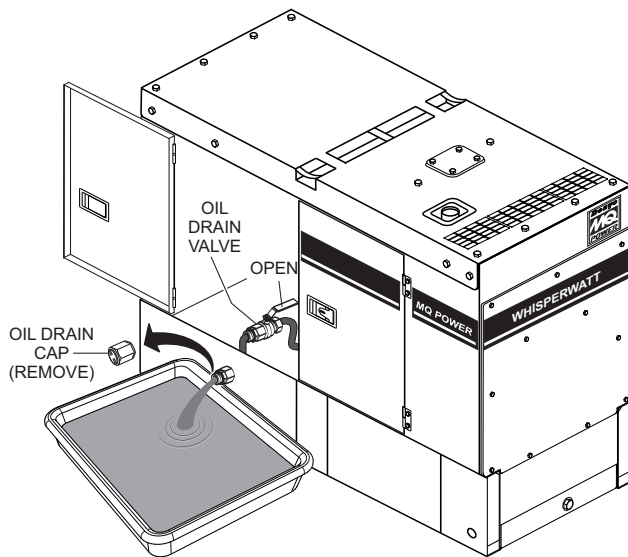

Figure 74. Draining The Engine Oil
3. Remove the **oil drain cap** (Figure 74).